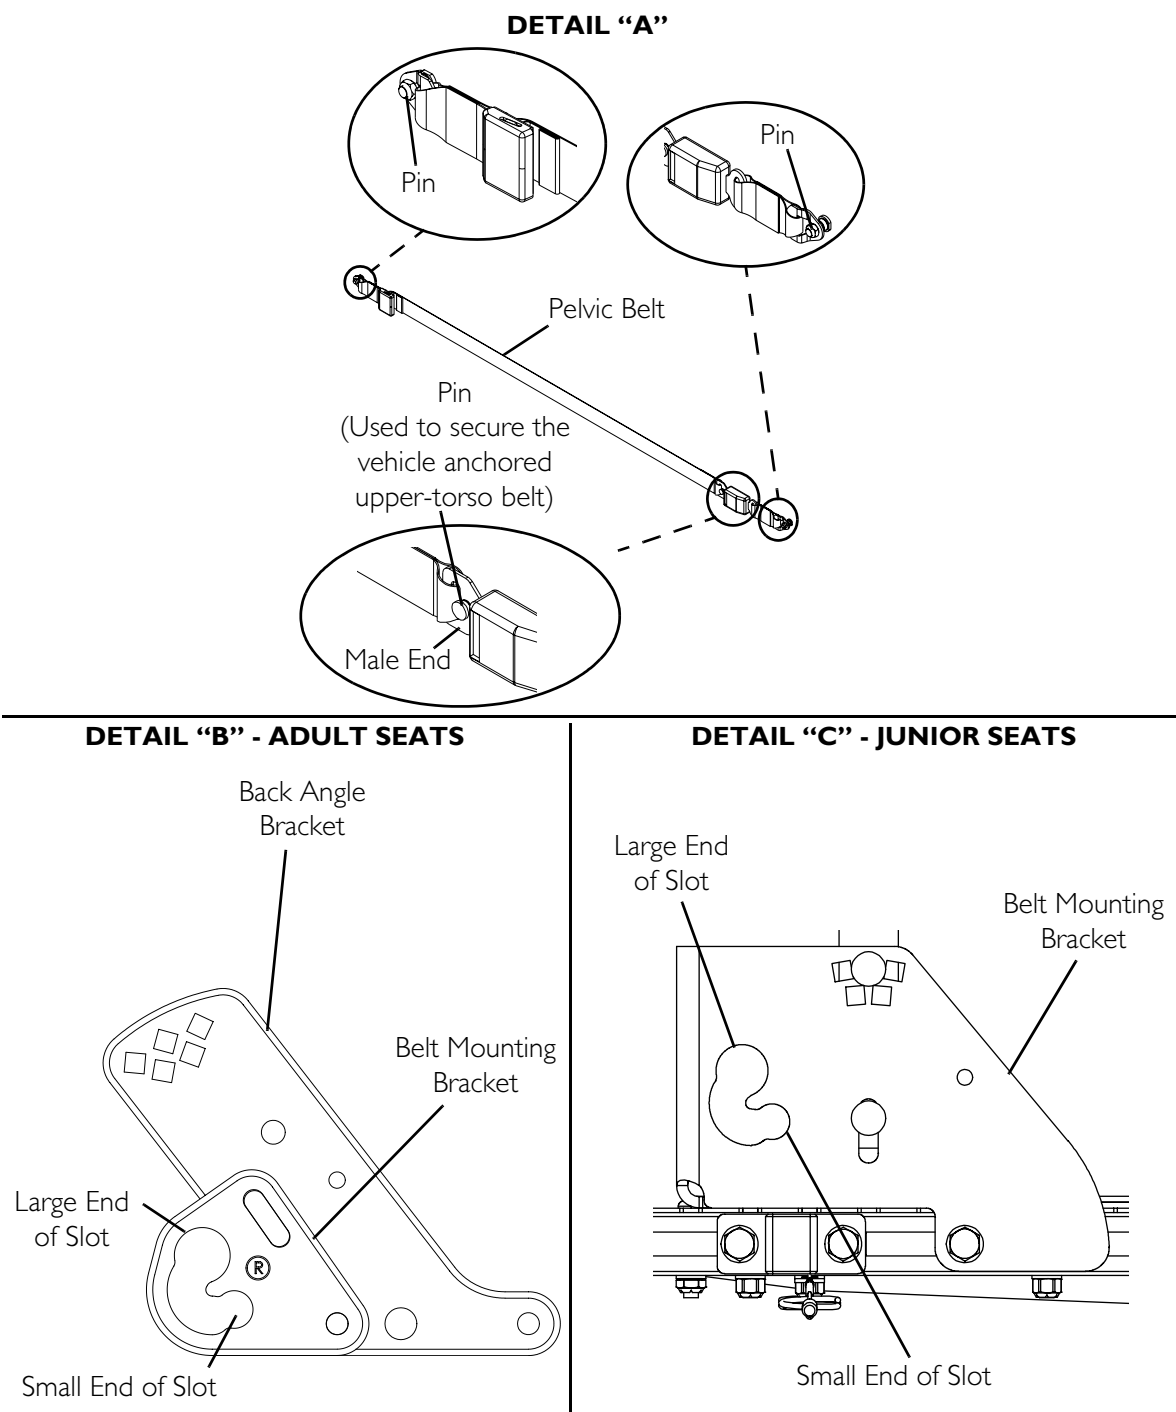

FIGURE 18.2 Wheelchair-Anchored Belts
NOTE: For this procedure, refer to FIGURE 18.2 on page 139.
1. Install the pelvic belt pin (Detail "A" of FIGURE 18.2) into the large end of the slot in the belt mounting bracket (Detail "B" or Detail "C"). Rotate downward and forward until it snaps into place into the small end of the slot.
NOTE: Note the position of the male end of the belt when installing the pelvic belt onto the belt mounting brackets. The male end of the pelvic belt (Detail "A" of FIGURE 18.2) has a pin which is used to secure the vehicle-anchored upper-torso belt.